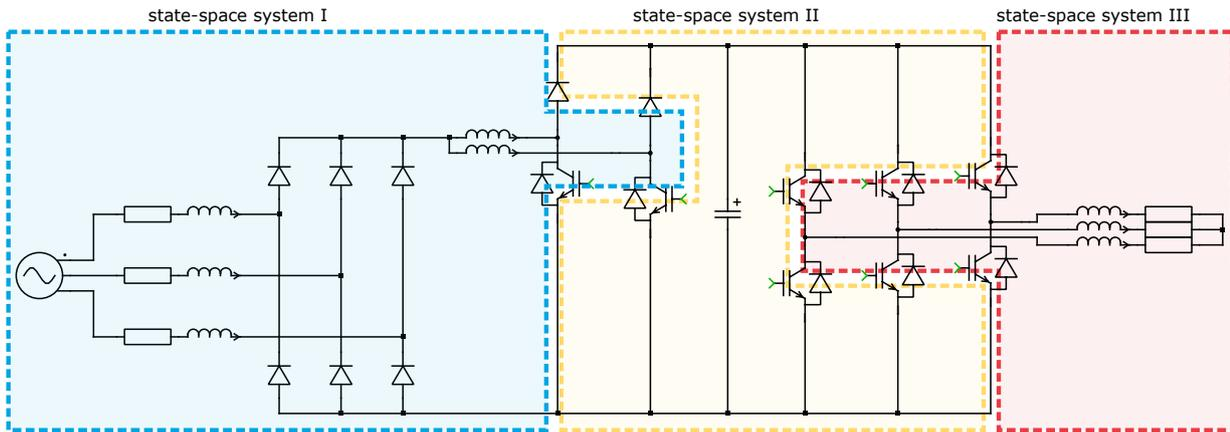
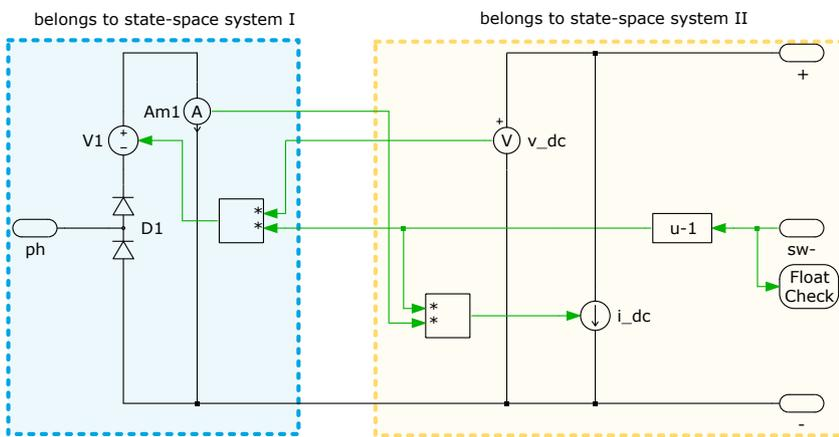
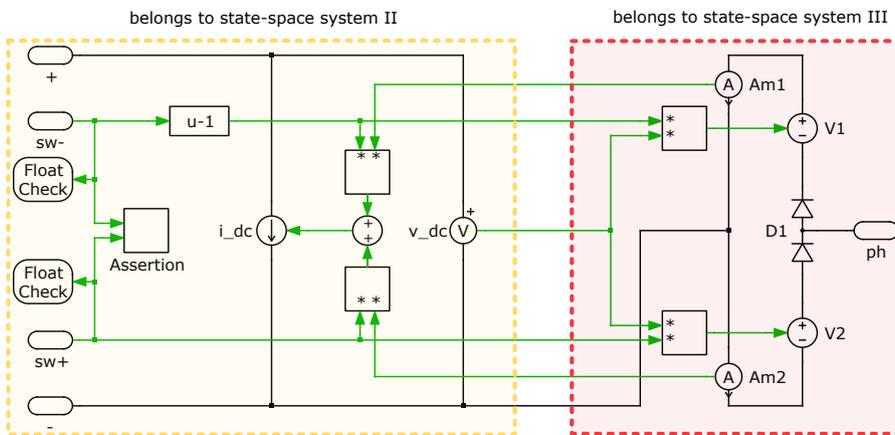

Figure 4: Three state-space systems generated by enabling state-space splitting function on the target system
Figure 5: Look-under-mask view of the Boost leg in sub-cycle average configuration with state-space splitting function enabled
Figure 6: Look-under-mask view of the Half Bridge inverter leg in sub-cycle average configuration with state-space splitting function enabled
- Ⓐ There are three Diagnostics messages describing three independent state-space models. Click on each message, one should see a list of components which compose each state-space model. Meanwhile these components are highlighted in the schematic for easy inspection. These three state-space systems are circled by different colors, and depicted in Fig. 4. Next, Fig. 5 shows the look-under-mask view of one Boost converter leg in Sub-cycle average configuration. And Fig. 6 shows the look-under-mask view of the Half Bridge inverter leg in Sub-cycle average configuration. It is clear that the DC-side circuit of the Half Bridge belongs to the middle state-space system together with the DC capacitor, and the DC-side circuit of the Boost converter leg. Whereas the Half Bridge inverter phase-side circuit belongs to the right state-space system together with the three-phase loads.
Specifically in our model, the DC capacitor in the state-space system II links both the Boost leg and the Half Bridge inverter leg. Seen from state-space system II in Fig. 5 and state-space system II in Fig. 6, the DC-link capacitor has Controlled Current Sources in parallel on both left and right side.